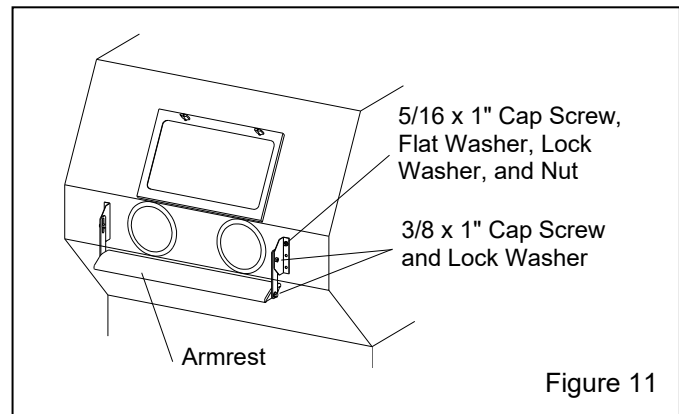

Figure 11
**3.4.1** Assemble the armrest and mounting brackets, as shown in Figure 11.